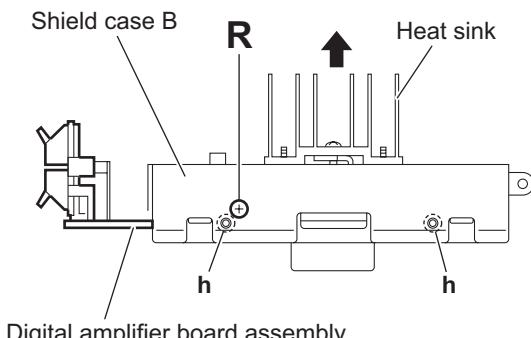

Fig.18
- (2) From the top and bottom sides of the digital amplifier board assembly, remove the three screws **R**. (See Figs.18 and 19.)
- (3) Release the joints (**h**, **j**, **k**, **m**) and remove the shield case B with the heat sink in the direction of the arrow. (See Figs.18 to 21.)